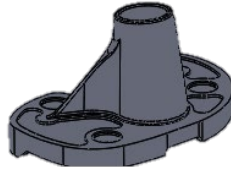

Figure 30
1. Position the Persona Tibial Plate with the face plate down on a padded surface (**Figure 30**).